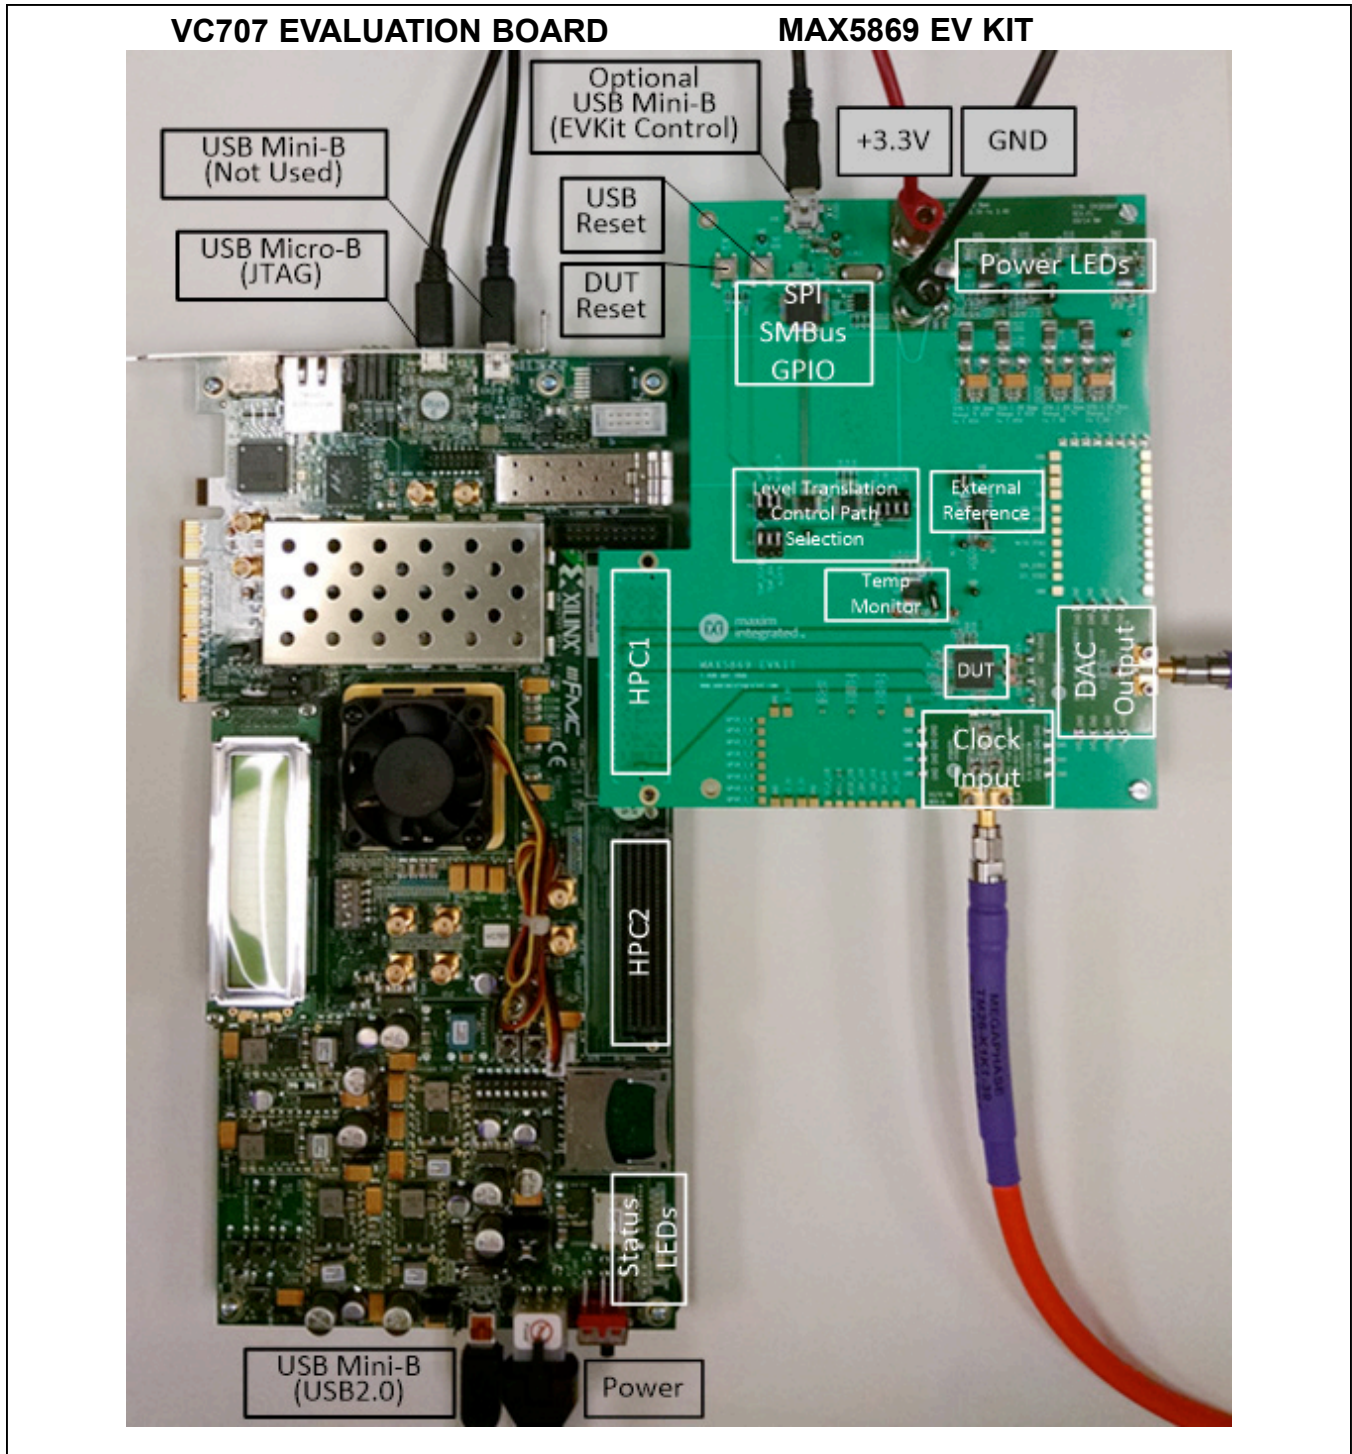

Figure 1. MAX5869/VC707 Evaluation Setup
### Setup and Connect the MAX5869 EV Kit Hardware board (Figure 1)
- 3) Connect the MAX5869 EV kit board to the VC707 board HPC1 FMC connector. Refer to Figure 1.
- 1) Connect the DAC output to the spectrum analyzer (see Figure 1). The settings below will match the test case used later in this quick start section: